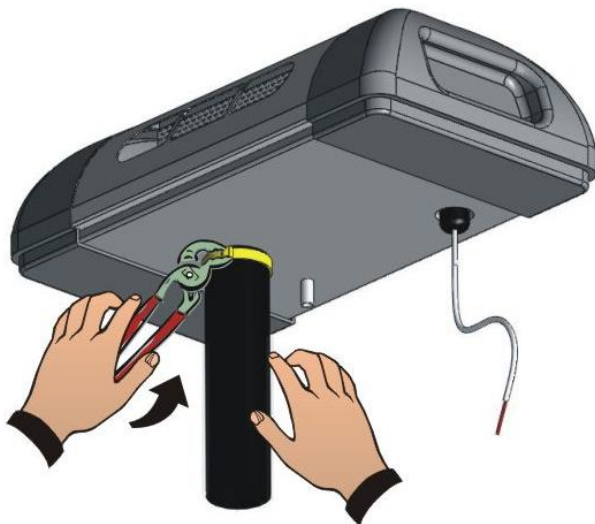
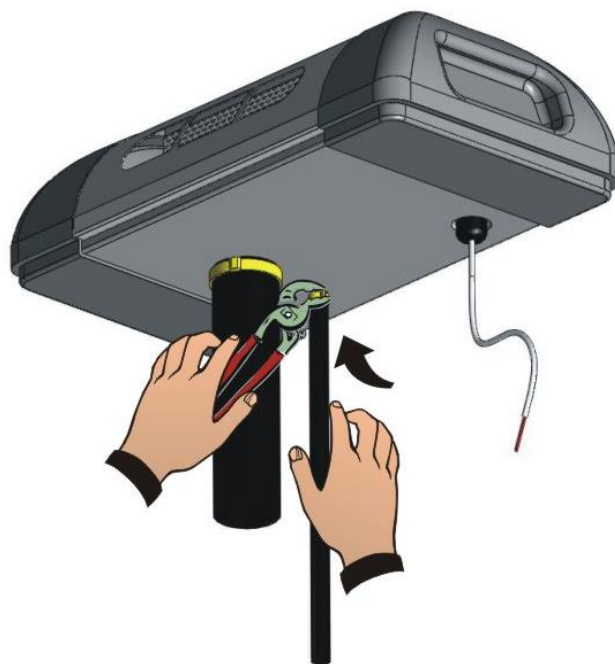

Fig.2
Fig.3
4. Connect the steam hose to the inlet (diameter 40 mm) (Fig.2) of the head and the condensate discharge hose to the outlet (with diameter 10) (Fig.3).
4. Connect the steam hose to the inlet (diameter 40) (Fig.2) of the head (one for each distributor head) and the condensate discharge hose to the outlet (with diameter 10) (one for each distributor head) (Fig.3).